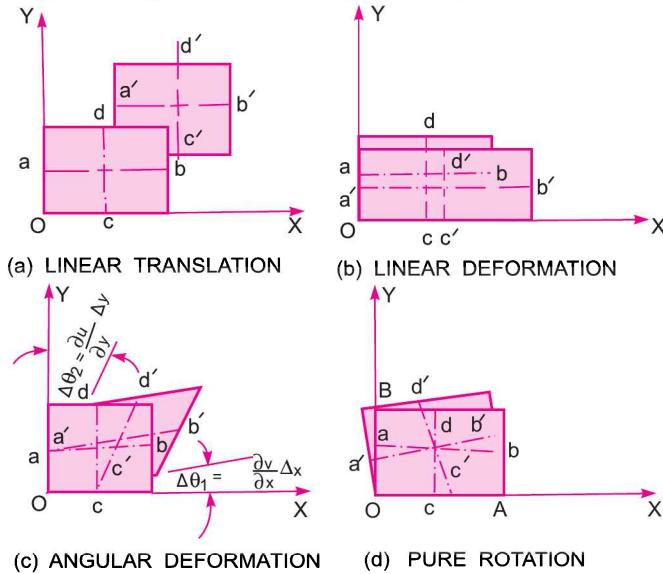

Fig. 5.11. Displacement of a fluid element.
5.9.1 Linear Translation. It is defined as the movement of a fluid element in such a way that it moves bodily from one position to another position and the two axes ab and cd represented in new positions by $a'b'$ and $c'd'$ are parallel as shown in Fig. 5.11 (a).
5.9.2 Linear Deformation. It is defined as the deformation of a fluid element in linear direction when the element moves. The axes of the element in the deformed position and un-deformed position are parallel, but their lengths change as shown in Fig. 5.11 (b).
5.9.3 Angular Deformation or Shear Deformation. It is defined as the average change in the angle contained by two adjacent sides. Let $\Delta\theta_1$ and $\Delta\theta_2$ is the change in angle between two adjacent sides of a fluid element as shown in Fig. 5.11 (c), then angular deformation or shear strain rate
5.9.4 Rotation. It is defined as the movement of a fluid element in such a way that both of its axes (horizontal as well as vertical) rotate in the same direction as shown in Fig. 5.11 (d). It is equal